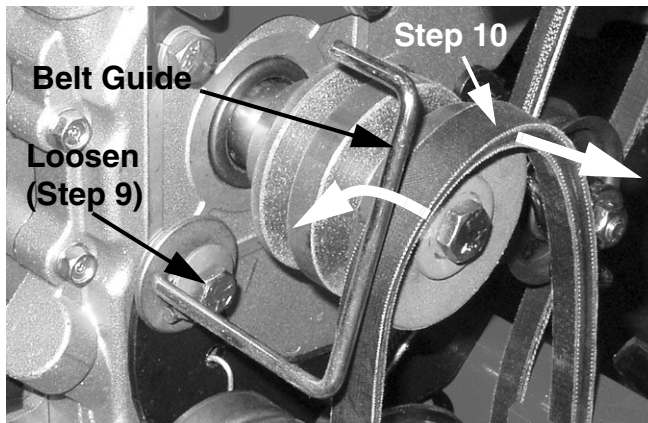

FIGURE 4
9. Using a 1/2" box wrench, loosen the idler bracket/belt guide retaining bolt just enough to rotate the belt guide away from the engine pulley. See Figure 4.